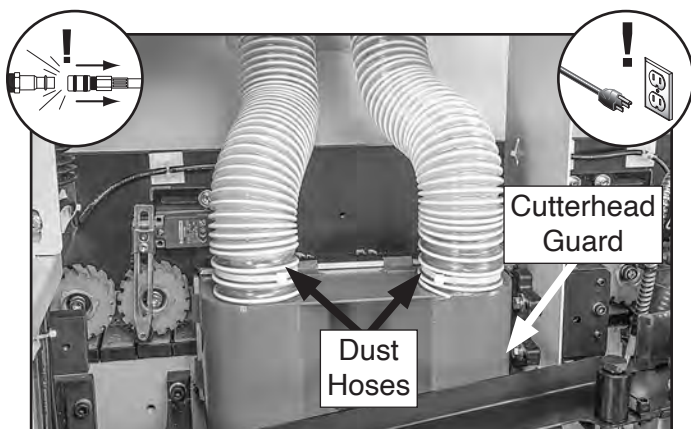

Figure 83. Location of cutterhead guard and dust hoses.
2. Remove (2) dust hoses from top of cutterhead guard (see **Figure 83**).